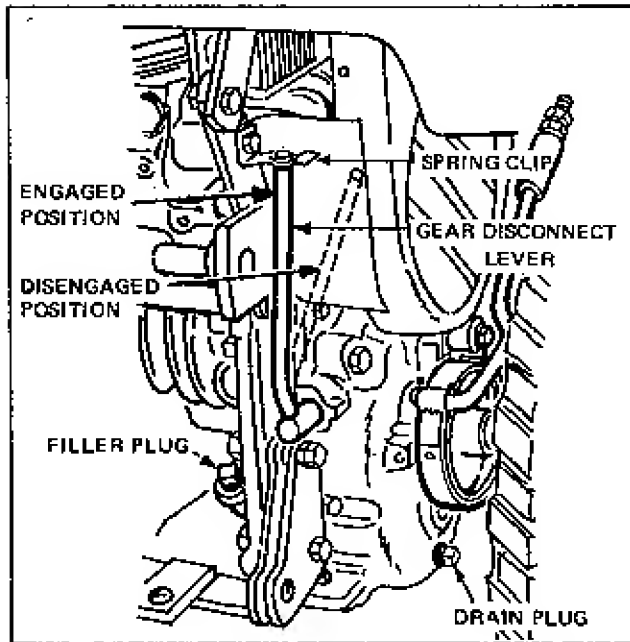

Figure 7
The transmission has a capacity of 1-1/2 qts. of SAE 90 oil and is filled at the factory. It will not normally require replenishment, but occasionally check drain plug for tightness and axle tube oil seals for leakage. Maintain oil level at lower edge of filler plug hole. Remove vent plug from top of transmission and allow oil to settle to normal level before checking. See Figure 7.
1. Move the gear disconnect lever, located on the rear of the transmission to a vertical position to engage the transmission. See Figure 7.
This lever is used to engage the transmission for running and to disengage the transmission if the tractor has to be moved without engine power. See Figure 7.